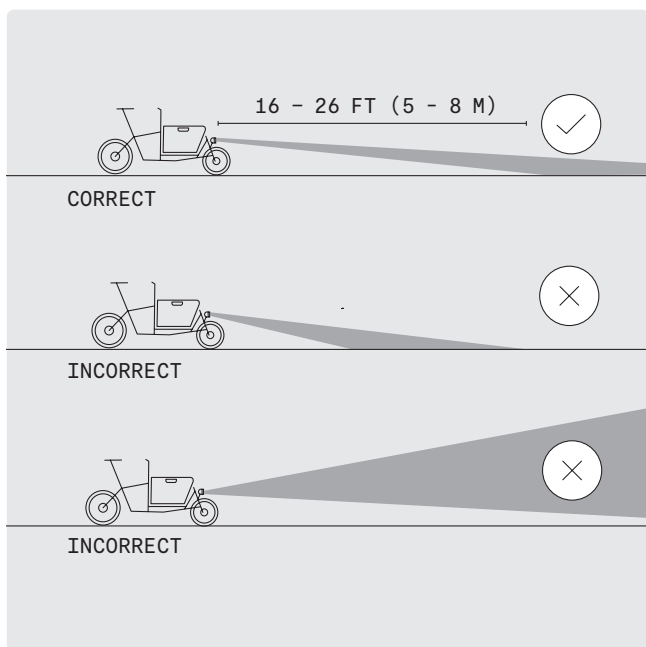

FIG. 48
- Make sure that the lights are never titled such that they shine upwards. (Fig. 48)
- 2 Align the lights such that the light cone hits the ground in the area 16 – 26 ft (5 – 8 m) in front of the front wheel (Fig. 48).